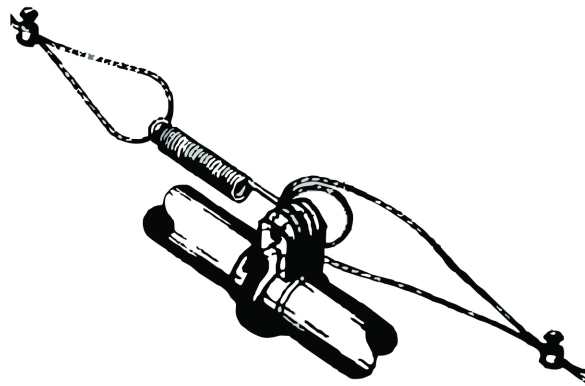

Figure 48. Anti-Roost Cable Intermediate Connection
4. Attach a spring in the center groove at the second anti-roost bracket and cut the cable at this point. See **Figure 48**.
5. Thread the ends of the cable through the end of the spring. Pull the cable tight so that there is 3/4" to 1" [20 to 25 mm] of stretch in the spring. Clamp the cable to form a loop and cut off any excess. See **Figure 48**.
6. Attach the cable to the insulator. For best results, make a double loop around the anti-roost insulator in the center groove of the insulator and fasten with a 1/16" cable clamp as shown in **Figure 48**.